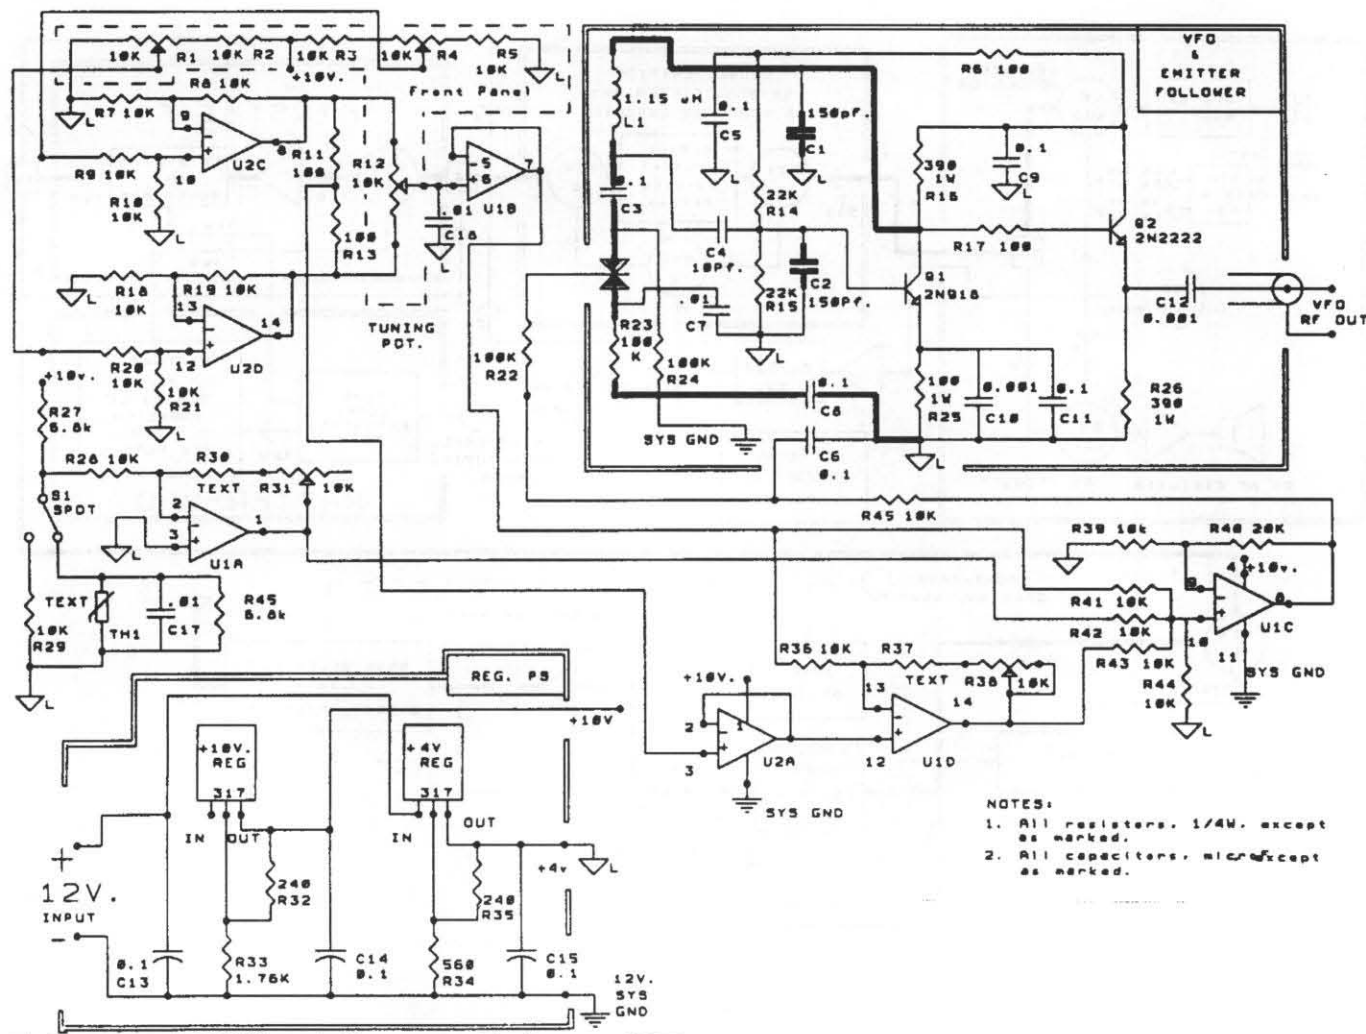

Figure 2 - VFO Schematic Diagram
This tech onfo part covers the Vackar VFO and the temp comp circuits shown in Figure 2 and are now discussed.
Note also that Gary found it necessary to decouple the base from the collector supply voltage to prevent an unwanted AF oscillation much like the ole term "motorboating". The decoupling in this rig consists of resistor R6 and capacitor, C5, shown at the top right of Figure 2. are required in order to prevent an unwanted modulating signal in the VFO oscillations.
The Varactor, D1: Diode D1 is shown in the heavy line path in Figure 2. It is a Motorola MV104 varactor (or replacement part, NTE617 or ECG617). The linearity of the MV104 extends over a much wider range than that which is required in this rig. Also, the linearity of a dual-diode varactor extends beyond that of single diode types. With good linearity in the MV104 and with a good, linear taper tuning pot, the readout on the tuning dial will also be linear. However, before continuing with the circuitry associated with MV104, it is beneficial to also discuss the thermistor, TH1 in the next two paragraphs.
Thermistor, TH1: In the circuit of Op Amp U1A, shown at the left center of Figure 2, temperature changes are sensed by thermistor, TH1. The resistance of TH1 is guaranteed to be within +/- 1% of 10K at 25 C. The value at 0°C. is 27.28K ohms and at +50°C., it is 4.161K ohms. This part is available from Radio Shack, # 271-110 for \$2.
calculated the values of these resistors required for this linearity. They are shown in Figure 2 at the left center as R27 and R45.
Op Amps: The LM-324 Op amp IC was chosen, (both for U1A thru D and U2 A thru D, in Figure 2) because, (1) it is inexpensive, (2) it is one of the high gain types of op amps (typically 200K open loop gain), and (3) it can be used with one power supply source.
In this rig, an unusual method of supplying power to U1 and U2 is used. In the lower left corner of Figure 2, two voltage regulators are shown.